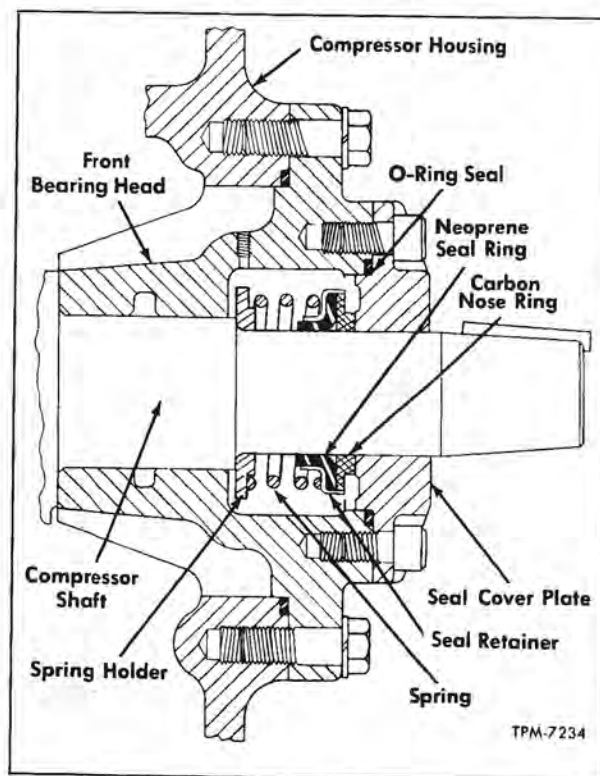

Figure 75—Crankshaft Seal Construction
5. Examine crankshaft seal components for excessive wear or damage. If components are found in good condition they can be reused. If damaged, replace with complete new seal assembly. Figure 75 shows seal components installed. Check components of compressor for wear to dimensions shown on "Compressor Wear Rate Table" at rear of this section under "Specifications."
NOTE: Refer to figure 75 when assembling seal kit.